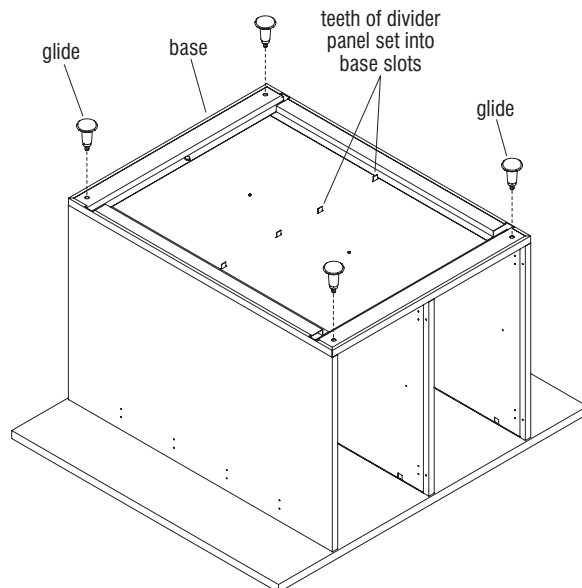

Figure 5
8. Twist in and tighten one glide to each corner at the underside of the base. If casters were specified (not shown), twist in to install two locking casters by one pair of doors and non-locking casters at the other side. Use a wrench to tighten the jam-nut between the caster and base (Figure 5).